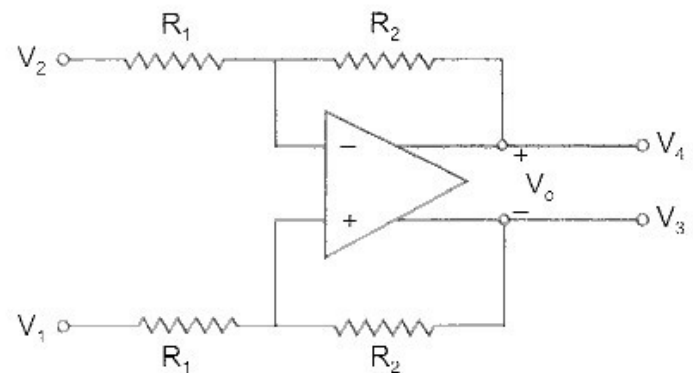

Fig. P. 4.5
4.5. Figure P. 4.5 shows a diff-amp with double ended output. Show that  $V_o = \frac{R_2}{R_1}(V_1 - V_2)$